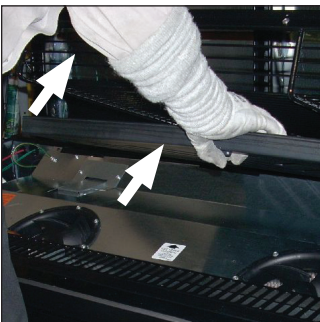
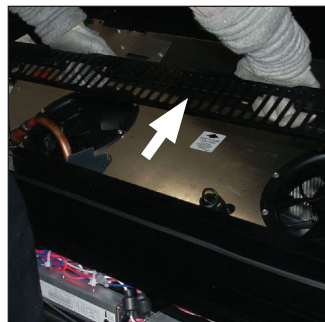

Fig 4.3 Remove the wire racks and deck pans.
Fig 4.4 The return air grill.
2. Remove the wire racks (Fig. 4.3), then the deck pans, then the return air grill (Fig. 4.4). The wiring connections will now be accessible from inside the case.
1. Starting at the bottom of the LED luminaire and working your way upwards, remove all mounting hardware (Fig. 4.3).
4. Starting at the top of the LED luminaire and working your way downwards, remove the fixture by pushing down on one side of the LED snap-in gasket (Fig. 4.4) and gently pulling it free of the snap-in track.